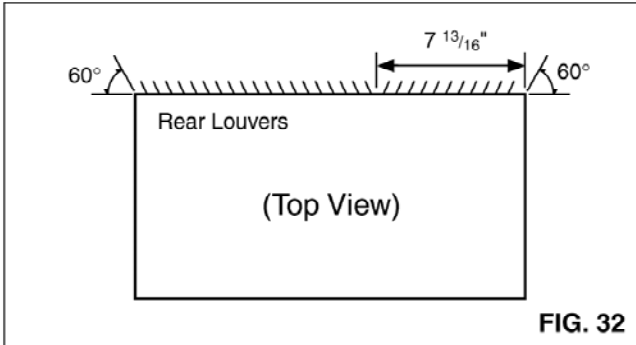

FIG. 32
- 1 Redirect the louvers at the back of the wall sleeve to 60° angle as shown in the FIG 32. The use of pliers is recommended.